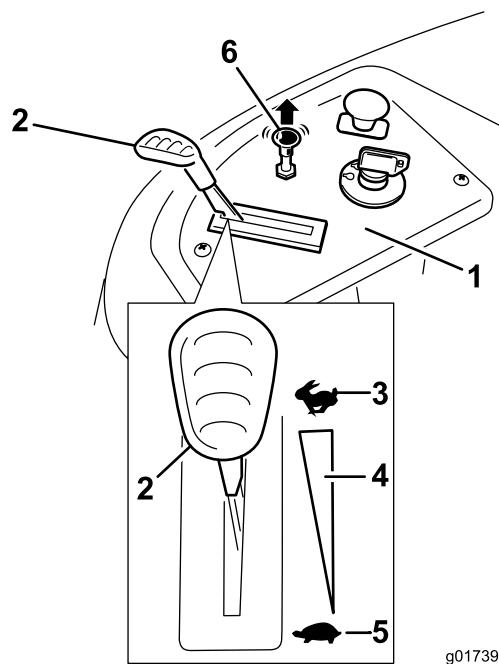

Figure 13
3. Pull up on the Choke control before starting a cold engine (Figure 13).
2. Move the throttle lever to between the Fast position (Figure 13).